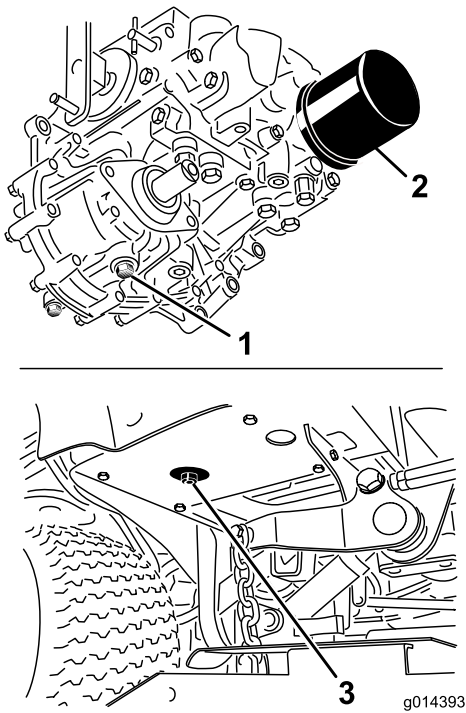

Figure 49
3. Place a large pan under the hydraulic reservoir and transmission case and remove the plugs, draining all of the hydraulic fluid (Figure 49).
4. Clean the area around the hydraulic oil filter and remove it (Figure 49).